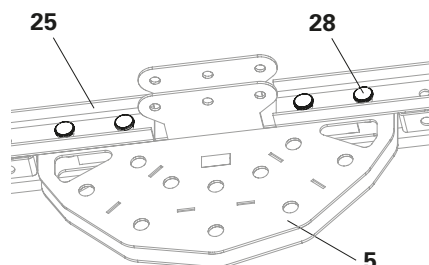

Fig. A2.09a
1. Slide the Steel Waler 262 (25) onto the Chord Node ATG (5).
2. Fix Steel Waler 262 (25) to the Chord Node ATG (5) using 2x fitting pins Ø 32 (28) respectively and secure with cotter pins 5/2 (29). (Fig. A2.09a + A2.09b)